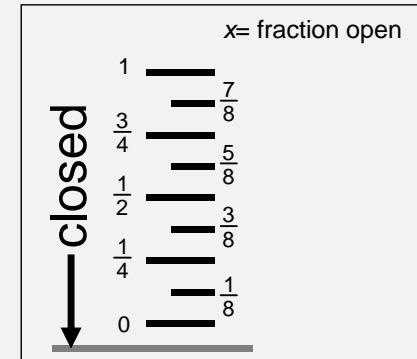

Figure 1: Schematic of the measuring scale on FV-03. The pointer moves up and down the scale depending on the fraction open of the valve.
**Note: air-pressure regulators are not “righty-tighty”; rather, when you right-hand advance regulators, more air flows.** Using a step ladder and the three point of contact rule, note the valve stem position for FV-03 (e.g. 5.5/8ths open). Note: The stem position of FV-03 is divided into 8 segments between 8/8ths closed and 0/8ths closed (Figure 1). Each notch corresponds to 1/8th the distance. The longer notches are the 1/4 markings